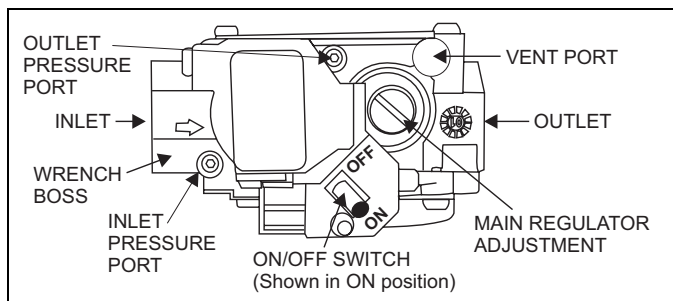

FIGURE 1: Single Stage Gas Valve
Manifold gas pressure may be measured by two different procedures. It may be measured with the burner box cover in place or it may be measured with the burner box cover removed. Follow the appropriate section in the instructions below. Refer to Figure 1 or 2 for a drawing of the locations of the pressure ports on the gas valve.
Inlet and manifold gas pressure may be measured by connecting the "U" tube manometer to the gas valve with a piece of tubing. Follow the appropriate section in the instructions below. Refer to Figure 1 for a drawing of the locations of the pressure ports on the gas valve.
Connect the positive side of the manometer to the IN P Tap on the gas valve. Do not connect any tubing to the negative side of the manometer, as it will reference atmospheric pressure. Refer to Figure 1 for connection details.
1. Refer to Figure 1 for location of pressure regulator adjustment cap and adjustment screws on main gas valve.
1. Refer to Figure 1 or 2 for location of pressure regulator adjustment cap and adjustment screw on main gas valve.